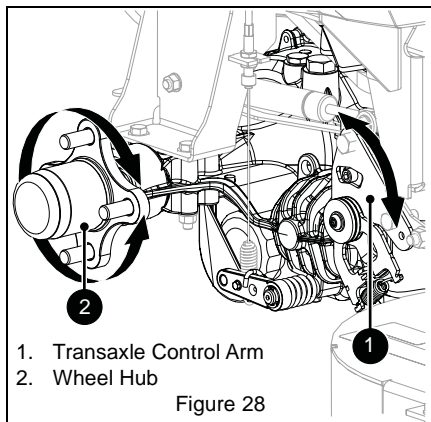

Figure 28
2. Slowly turn transaxle control arm in the opposite direction of hub rotation until hub stops. See Figure 28.